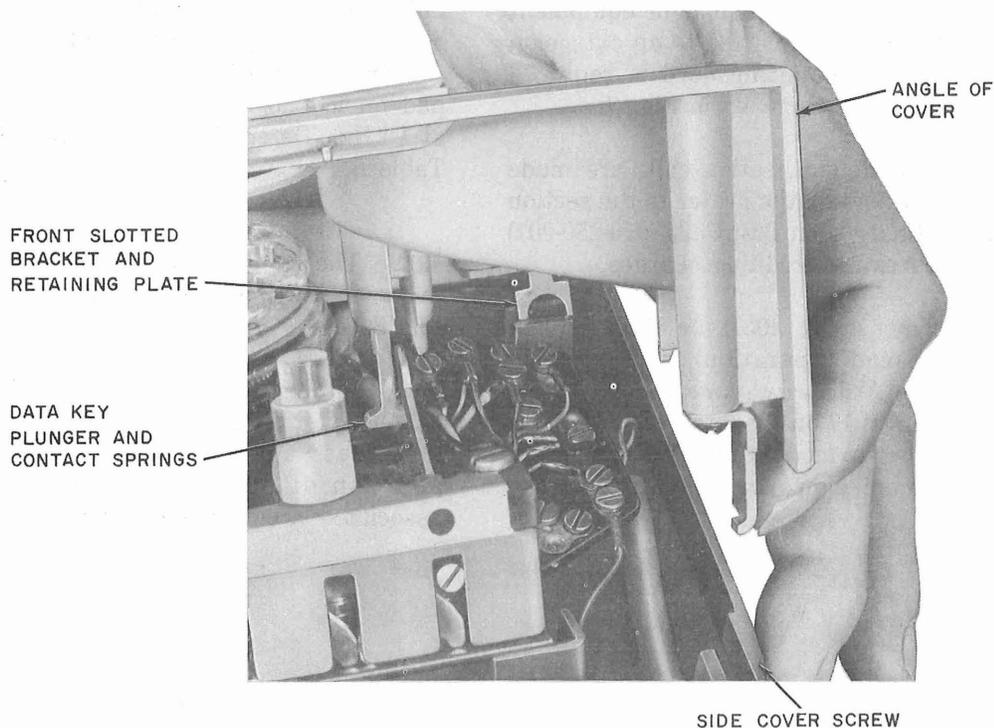

Fig. 3—Data Set 401E-Type—Method of Replacing Front Cover
(2) Press the two front holding screws in to provide clearance between the base pan and cover retaining plates.
(3) Holding front cover at an angle, as shown in Fig. 3, position the front slotted cover brackets between base pan and front cover retaining plates. Hold the inside cover screws in and carefully position the front section of the cover over the key unit and switchhook buttons, observing that the data key plunger is positioned properly between the outside contact springs.
(4) Check test keys and switchhook buttons to make sure they do not bind on cover.
(5) Replace rear cover carefully and tighten all screws.